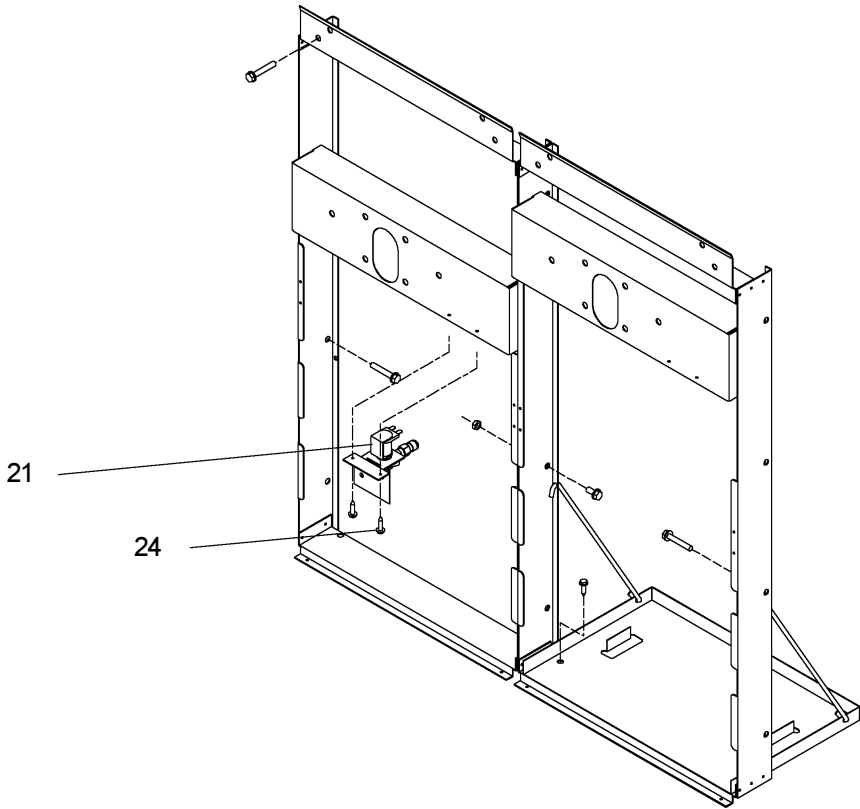

FIG. 4
12. Attach solenoid valve assy. to the underside of cross member of mounting frame on electric eye unit. See Figure 4.